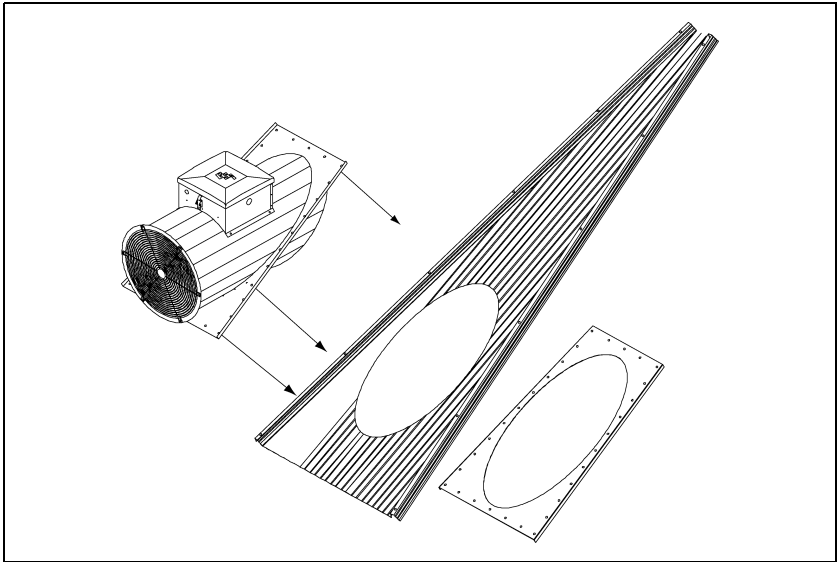

Figure 5B The 18" Roof Exhauster Fan in Relation to the Roof Sheet.
3. Place the roof fan into the elliptical hole from the outside of the roof sheet inward. On the side of the roof sheet that will be inside the bin, position the loose mounting flange over the fan tube. Using the sixteen (16) 5/16" x 3/4" bin bolts with the neoprene washer head to the outside of the bin, secure the fan, roof sheet and flange with the 5/16" nuts provided. (See Figure 5B).